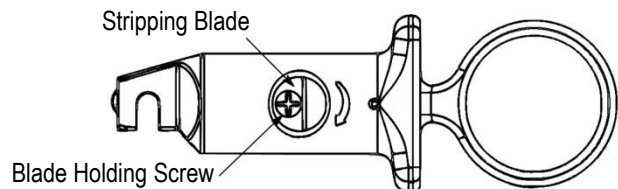

Figure 6
6. REPLACING THE CABLE JACKET STRIPPING BLADE (Figure 6)